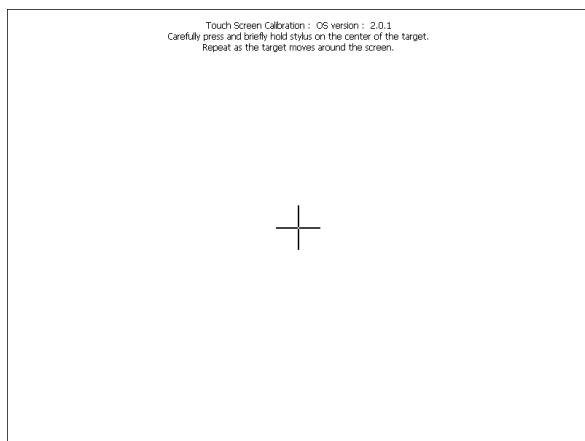

Figure 28: Touch Screen Calibration: Start
1. From the Configuration Screen, press the Touch Screen Calibration button. Figure 28 will appear.